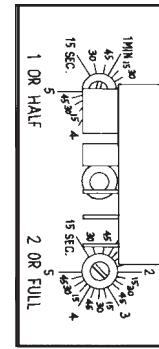

Figure 2
**Two Batch Timer with Knob Adjustment, See Figure 2:**